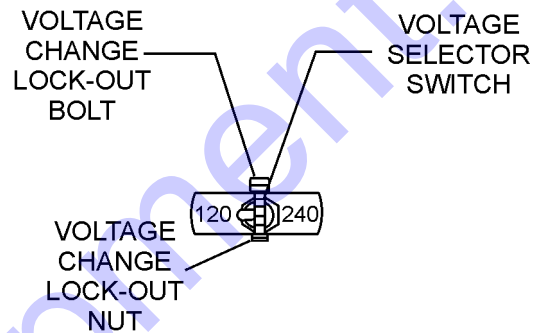

Figure 5. Voltage Change Switch
- Remove the voltage change lock-out bolt and nut (Figure 5). Change the position of the voltage change toggle switch from 120 VAC to 240 VAC. The mixer is factory wired for 120 VAC operation.